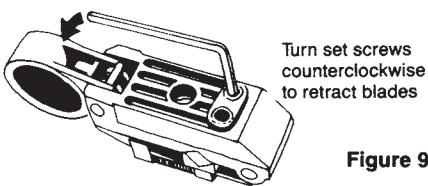

Figure 9
**I. ADJUST BLADE DEPTH** to match your cable size by turning allen screws at base of tool (Fig. 9).